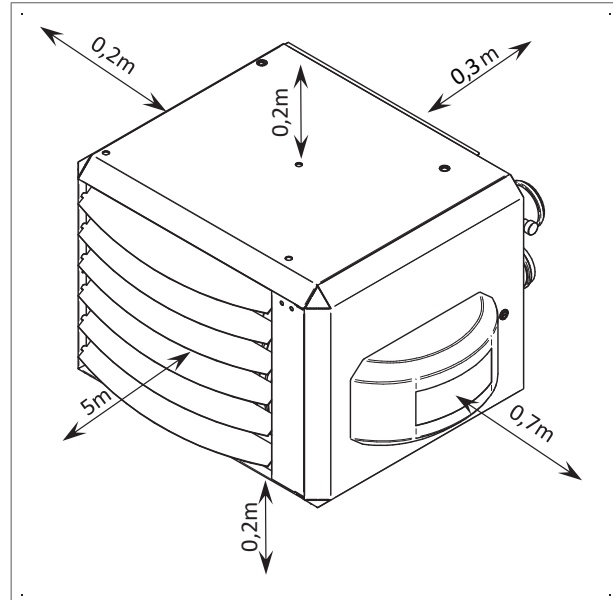

Figure 4 - Minimum clearances around the air heater
- Keep sufficient distance between the heater and any obstructions. This is both for safety reasons and to allow access for service and maintenance (figure 4).